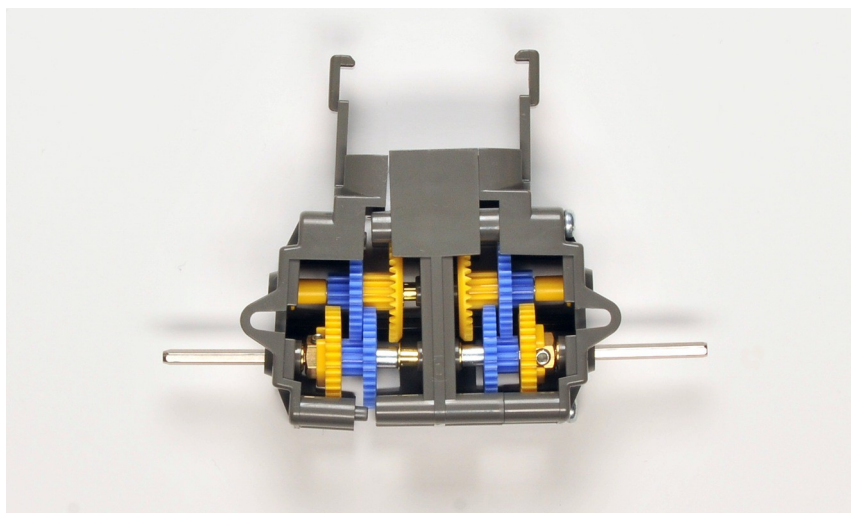
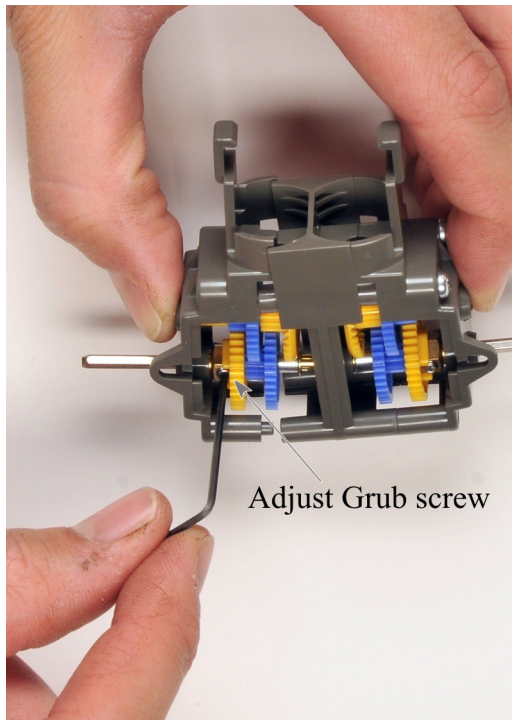

Figure 1.24
Figure 1.25
22. The left side of the housing may not close correctly, as shown in figure 1.24. Do not force together. Instead, while holding the two parts together, use the hex wrench to loosen the left side Grub screw. See figures 1.25 and 1.26. This will allow the two parts to mate properly. Continue to hold the two housing part together. Tighten both Grub screws.